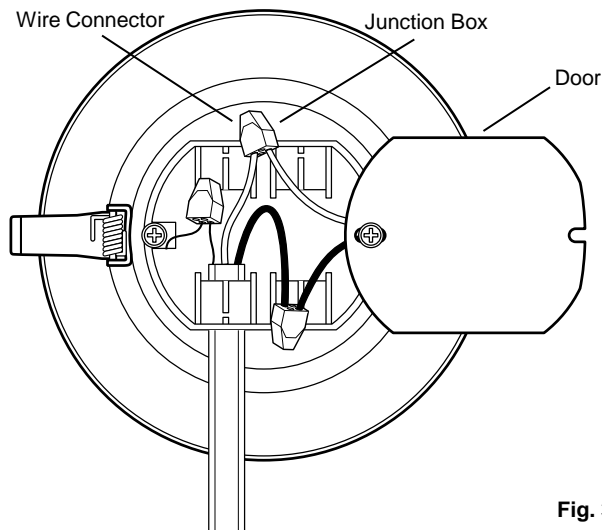

Fig. 3
4. Open the door of the junction box. Insert about 5 or 6 inches of the NM cable into the junction box through one of the provided strain-relief slots. (Fig. 3)
5. Remove at least 3" of the cable's outer sheath and remove the plastic or paper over-wrap. Strip approximately 3/8" of insulation from the ends of all supply wires. Using the wire connectors, make the following wire connections within the junction box (Fig. 3):